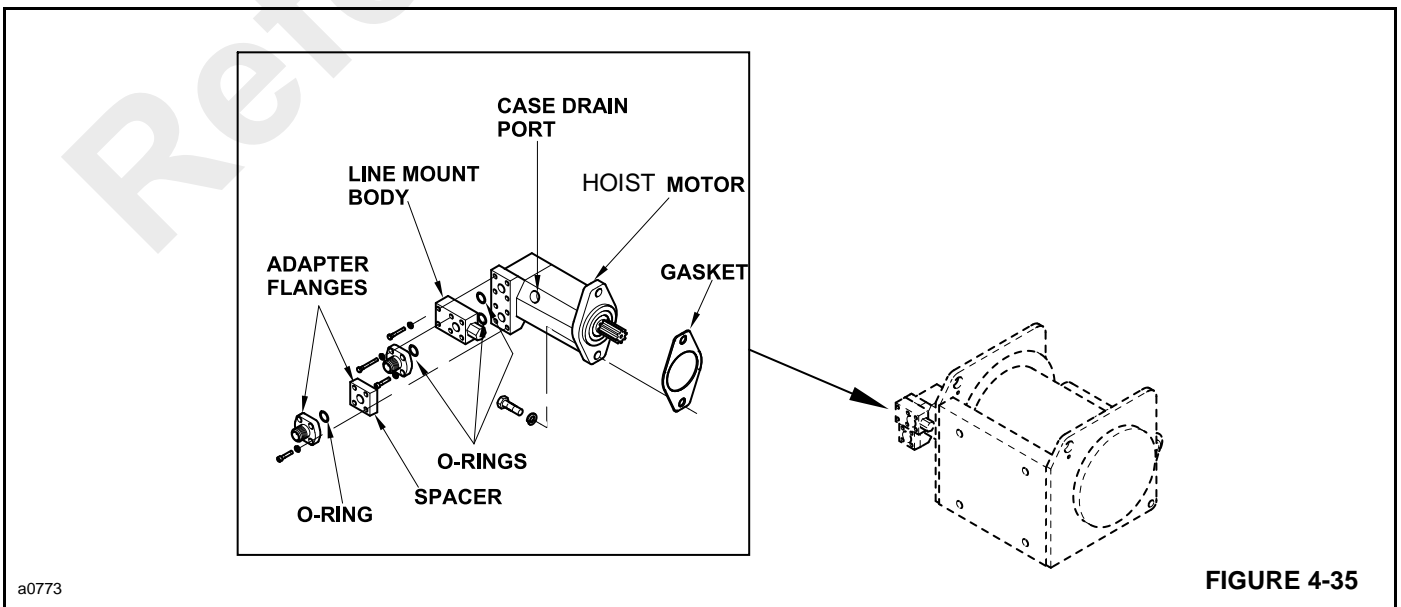

FIGURE 4-35
4. Remove the adapter flanges, spacer block and line mount body (Figure 4-35) from the pump. Discard all O-rings.
1. Install the line mount body (Figure 4-35), spacer and adapter flanges to the hoist motor. Be sure to use new O-ring seals.
3. Fill the hoist motor through the case drain hole (Figure 4-35) to the bottom of the fill plug with clean hydraulic oil.